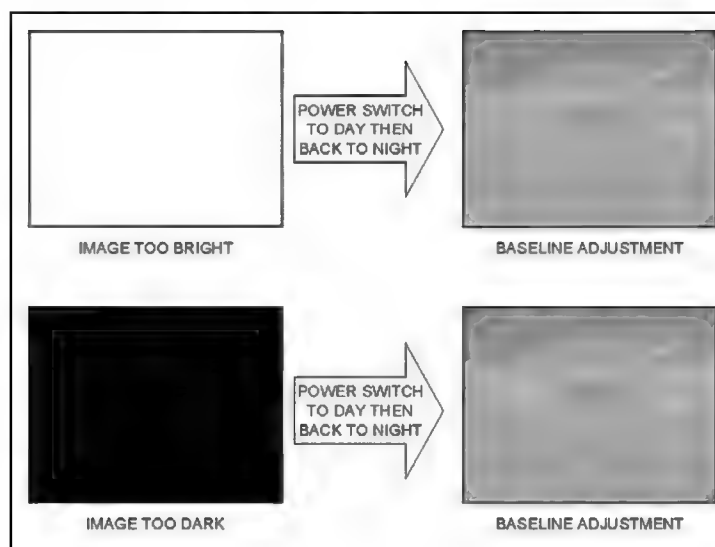

Figure E-19. Return to baseline from an extreme contrast/brightness adjustment.
- Corrective action. The gunner takes corrective action by turning the power switch to DAY, then back to NIGHT. The NVS adjusts itself to the baseline image (Figure E-19).